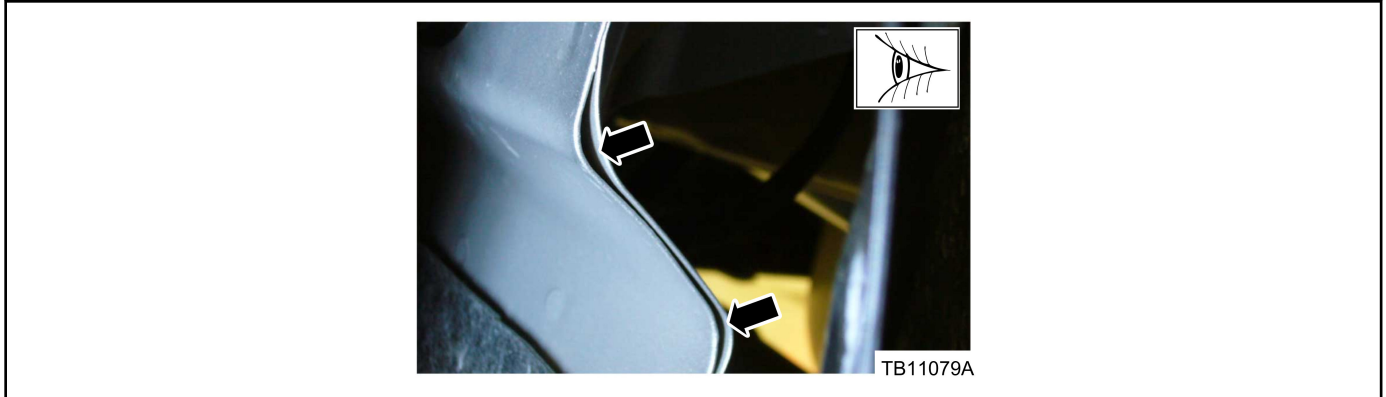

Figure 11 - Article 17-0044
- a. Inspect the lower edge of the wheel arch for gaps. Seal as necessary using Motorcraft® Seam Sealer or equivalent. (Figure 11)